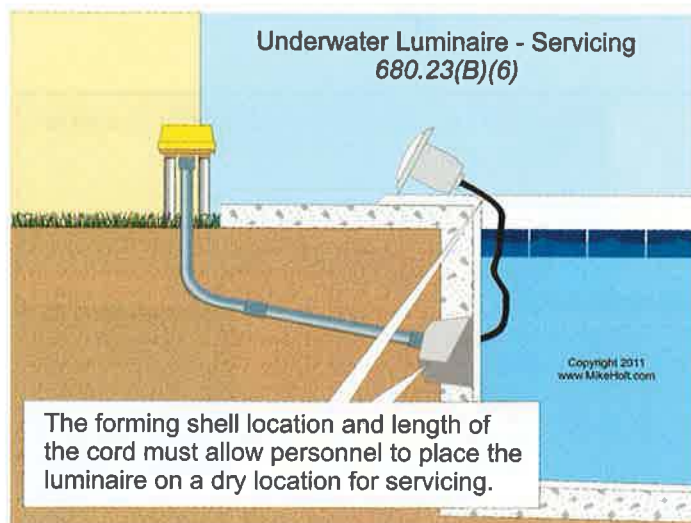

Figure 680-23
(6) Servicing. The forming shell location and length of cord in the forming shell must allow for personnel to place the removed luminaire on the deck or other dry location for maintenance. The luminaire maintenance location must be accessible without entering or going in the pool water. **Figure 680-23**